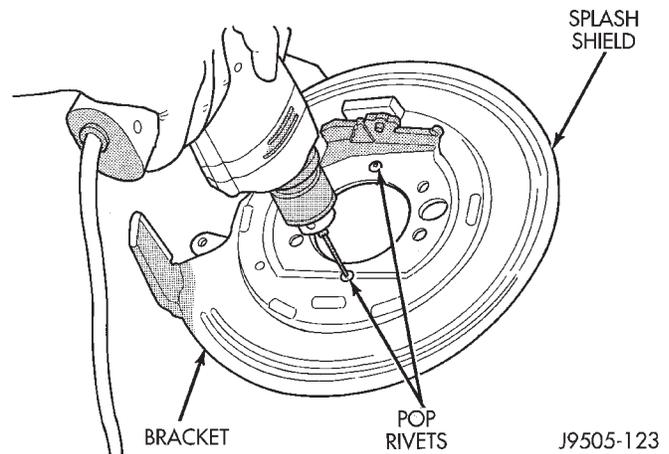

Fig. 53 Drilling Out Splash Shield Rivets
(1) Raise vehicle and remove wheel and tire assembly.
(2) Remove caliper bolts and lift caliper off rotor and bracket. Suspend caliper from chassis or suspension component with wire.
(3) Retract parking brake shoes and remove rotor.
(4) Remove axle shaft, refer to Group 3 Differential and Driveline.
(5) Remove parking brake shoes from splash shield.
(6) Remove nuts attaching splash shield and caliper bracket to axle tube flange.
(7) Remove splash shield and caliper bracket from axle studs and work lever out of rear cable eyelet.
(8) Mark position of splash shield and bracket for assembly reference. Use paint or scribe to mark parts.
(9) Drill out rivets that retain splash shield to caliper bracket (Fig. 53). If rivet heads did not come completely off after drilling, remove remaining pieces with small chisel.